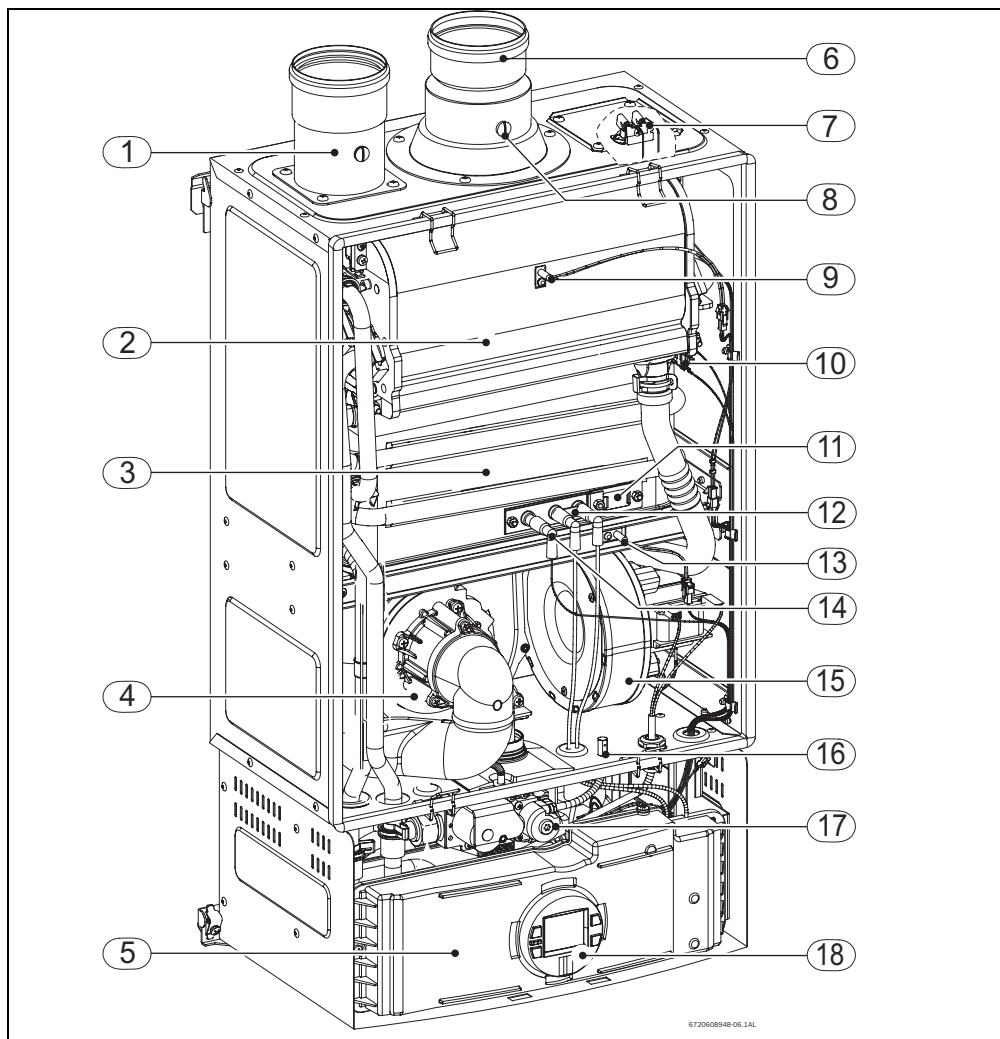

Fig. 2
When a hot tap is opened, the water flow sensor should be in (Fig. 2 , pos. 2) send a signal to the control unit. This signal initiates the following: